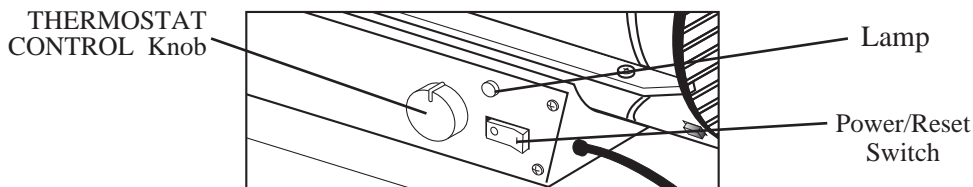

Figure 9. RMC-KFA45T/65T/120T/170T/210T MODELS
4. Turn “THERMOSTAT CONTROL Knob” to desired setting and push power switch to ON” position, power indicator lamp will light and heater will start. If heater does not start, the thermostat setting may be too low, turn THERMOSTAT CONTROL Knob” to higher position to start heater. If heater still does not start, turn power switch to “OFF” and then to “ON” position. (See Figure9). If heater still does not start, see Troubleshooting Guide on page 13.